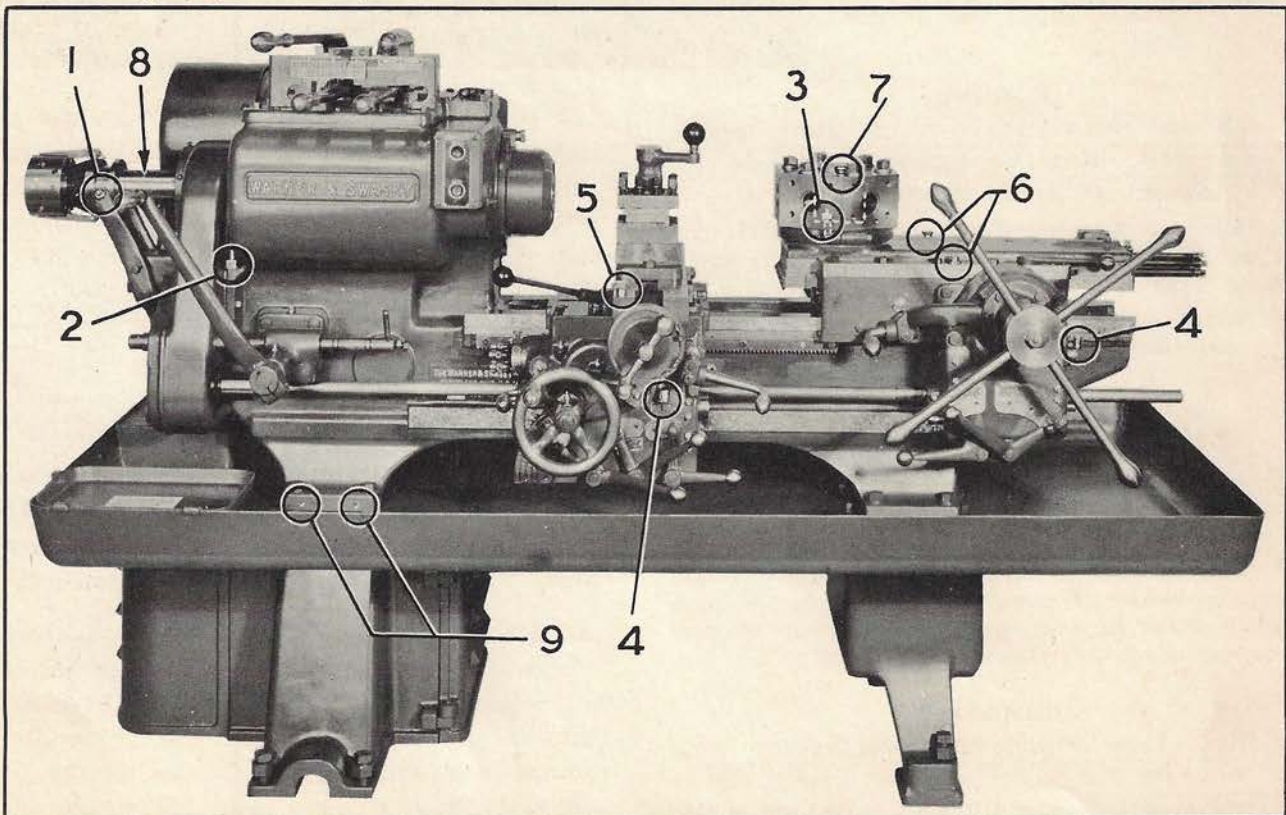

Fig. 4. Lubrication
2. Fill head with oil to red line, half way up on gage glass when head is not running. (Fig. 4, No. 2).
3. Grease all nipples with No. 1 consistency "Roller Bearing Grease." Use grease gun furnished with machine. Be sure to grease nipple inside of hexagon turret center hole (Fig. 4, No. 3) and if bar equipment is furnished, look for two nipples (front and rear) on upper end of wedge shifter fork at left hand end of spindle (Fig. 4, No. 1).
4. Fill worm troughs (Fig. 4, No. 4) generously in both aprons through oilers with same grade of oil as is used in head stock.
5. Move cross slide all the way in and then fill the plunger pump (Fig. 4, No. 5) **FOUR TIMES** with oil. Force the oil down by inserting plunger and pushing it all the way down each time. This pump delivers oil to the front and rear bed ways, the cross slide ways, and the cross feed screw and its nut.
6. Fill cups on front and rear of turret slide caps (Fig. 4, No. 6).
7. Fill oil cup on top of hexagon turret (Fig. 4, No. 7).
8. On machines with bar chucks, apply a mixture of white or red lead and machine oil to the left hand end of spindle where the hardened wedge (or spool) slides (Fig. 4, No. 8). Do this for several days until these units are thoroughly burnished or "run in."
Drain oil in head and flush head thoroughly. Re-fill, then watch oil gage of head stock and add oil when required. Oil level should reach to red line half way up on glass tube when head is not running (Fig. 4, No. 2). Be sure vent in hand hole cover on top of head is kept open or pressure in head will cause oil leakage.
The left hand (head end) leg of the bed is bolted to the floor leg directly, while the pan can slide a limited amount between the two to allow the pan to expand or contract without affecting the bed alignment. This slip joint is packed in waterproof grease and should not require attention. If, however, slight leaks should ever develop, remove the four $\frac{1}{4}$ " pipe plugs in the bed leg near the pan (Fig. 4, No. 9), insert grease nipple and apply waterproof automobile water pump grease, available in most automobile service stations.